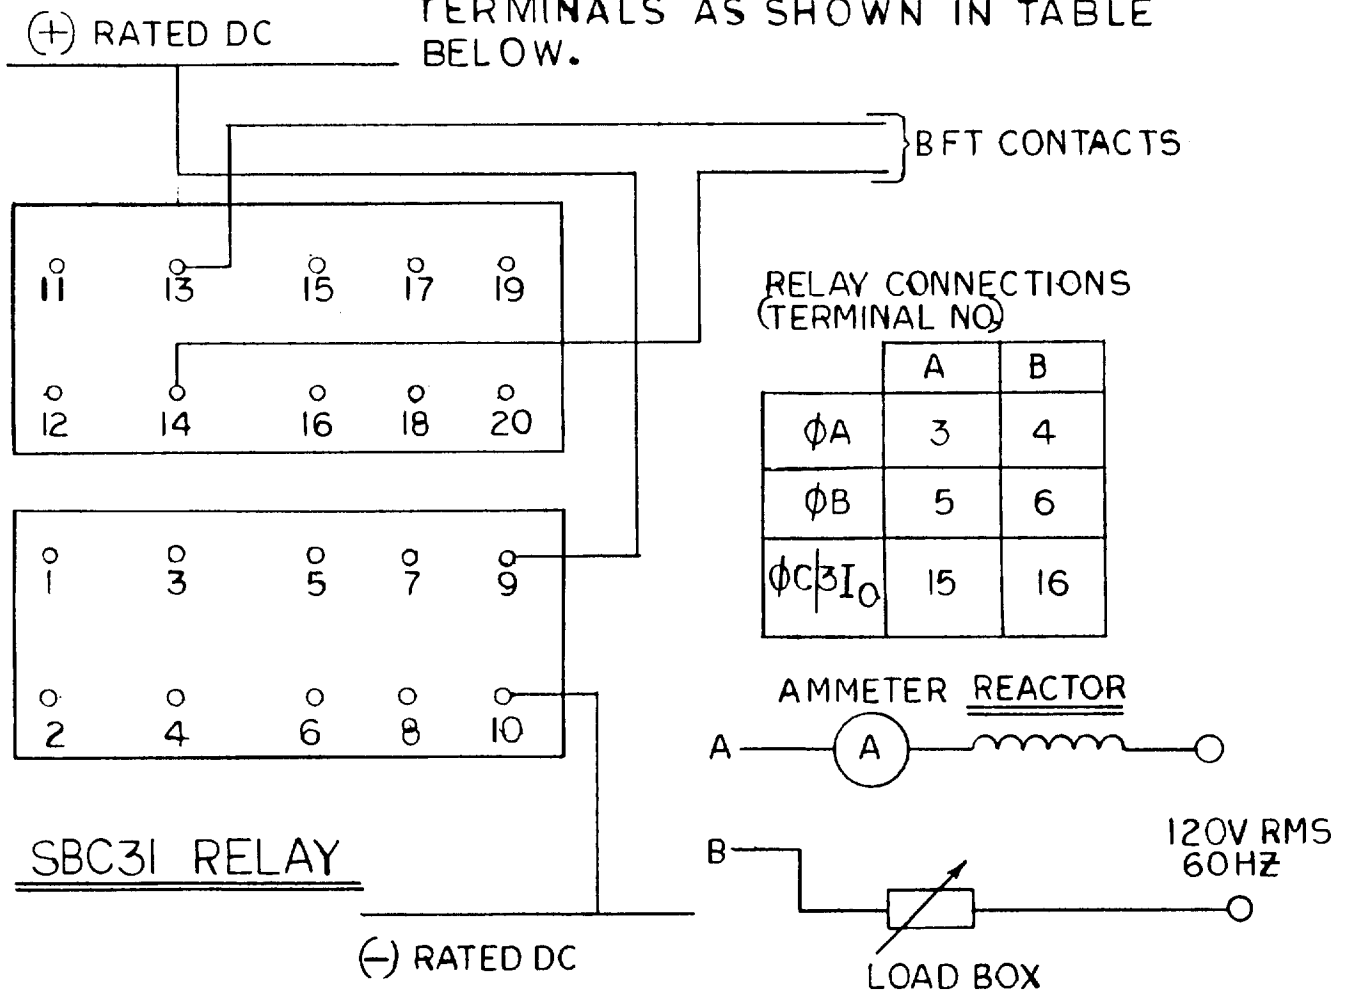

Fig. 16 (0246A2204-1, Sh. 2) Current Detector Test for the SBC31 Relay
- Fig. 16 Current Detector Test for the SBC31 Relay